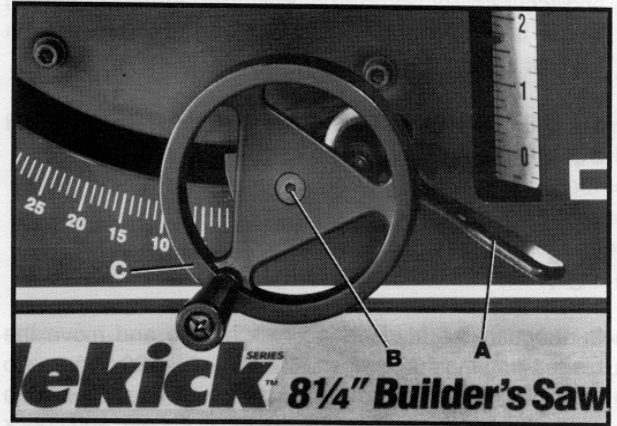

Fig. 28
If the blade tilting lock handle (A) Fig. 28, is turned clockwise as far as possible and the locking mechanism is not fully locked, the handle can be repositioned as follows:
1. Remove screw (B) Fig. 28, and handwheel (C).